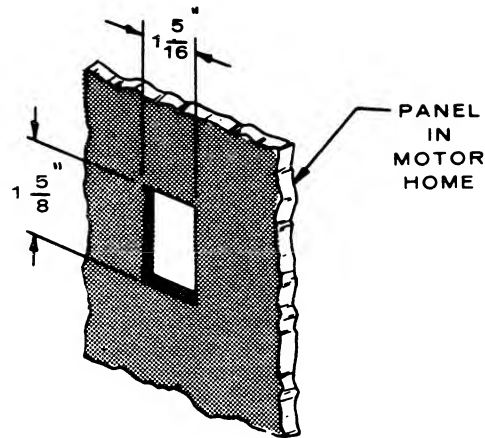

FIGURE 16. MOTOR HOME CUTOUT
1. Select switch location. Using Figure 16 as a guide, drill screw holes and cut holes in RV panel.